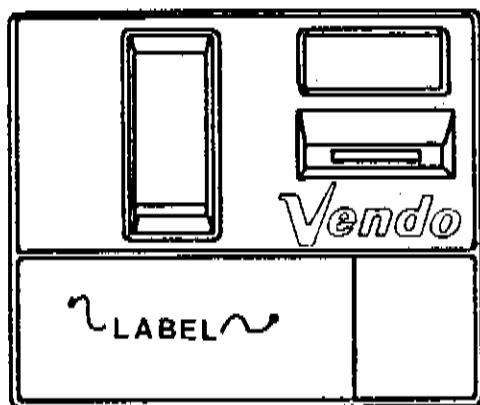
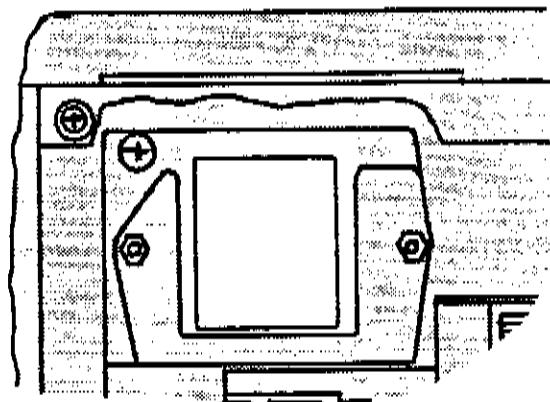

FIG. 13
FIG. 14
a) COIN INSERT INSTRUCTION: Be sure front surface of coin insert casting is clean and dry. Peel off backing paper and apply label with firm pressure. Apply label with left edge flush with left side of casting. SEE FIGURE 13
b) PRICE LABEL (S):
1) For machines with large (6" x 6") button - insert label behind pricing window the price visible through window. SEE FIGURE 14
3) FLAVOR LABELS: Open coinage mounting door and insert labels into selection buttons from the left as facing back of opened outer door. SEE FIGURE 13.